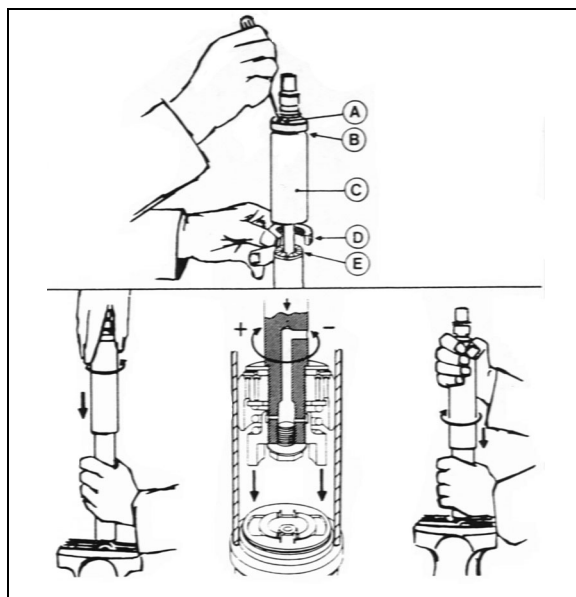

FIGURE 37: DAMPER
To adjust opening and closing cycle speed on damper (Figure 37):
8. Fully close the damper while turning the dust cap or piston rod slowly CCW until it is felt that the cams of the adjusting nut engage in the recesses of the foot valve assembly (Figure 37).
Where a bump rubber was installed, refit same inside the dust cap and by fully closing the damper, the rubber will seat again at top of the dust cap. Refit the split plastic collar E (Figure 37).